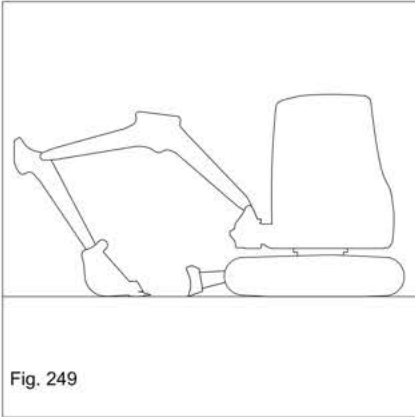

Fig. 249
- ▶ Park the machine as shown in Fig. 249.